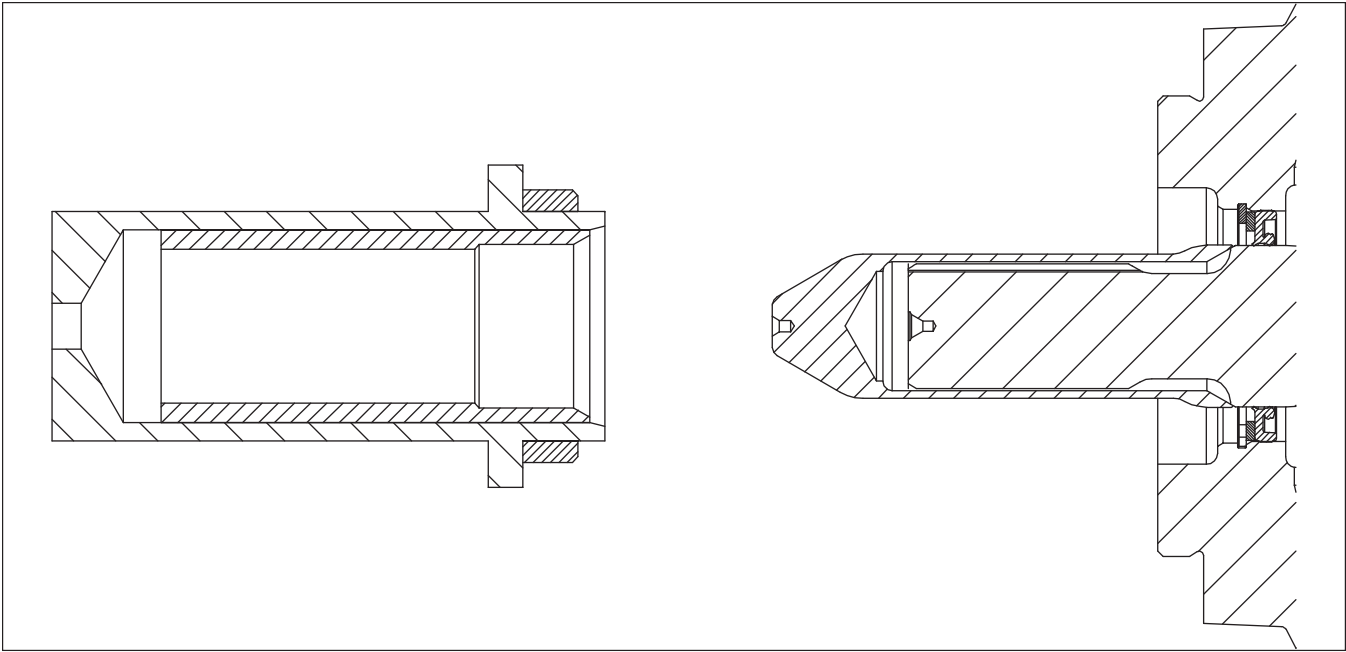

Figure 7. Shaft seal bullet and installation tool
- vi. Using the shaft seal installation tool (Figure 7 and 13) and a rubber mallet, gently tap the tool until the tool bottoms on the mounting flange.
- ix. Using the shaft seal installation tool (Figure 7 and 13) and a rubber mallet, gently tap the tool until the retaining ring snaps into place in the groove.